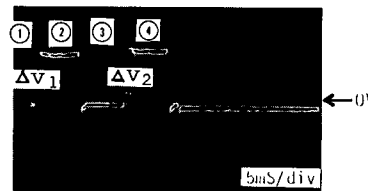
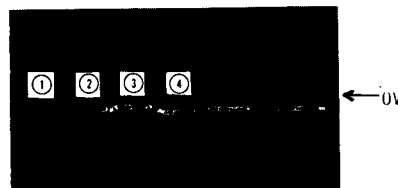

Figure 5-3. Waveforms before Adjustment.
Figure 5-4. Waveforms after Adjustments with A4ADJ1 and A4ADJ2.
- f. Adjust A4ADJ1 (A4R5) to flatten and balance square waves ① and ② as shown Figure 5-4 from the waveforms as shown in Figure 5-3.
- h. In like manner, adjust A4ADJ2 (A4R55) for square waves ③ and ④. The balances ( $\Delta V_1, \Delta V_2$ ) should be within  $\pm 100\text{mV}$  as shown in Figure 5-4.